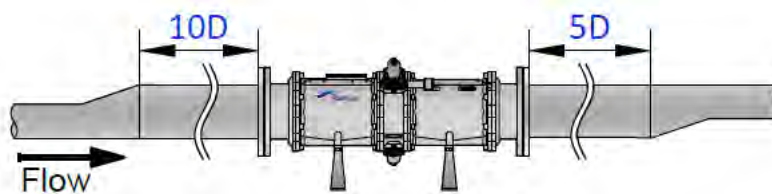

Figure 3-1: Configuration for eccentric expanders in horizontal installation
- ◆ For a horizontal installation, install an eccentric reducer/expander adapters, with downstream outlet higher than inlet, as shown in Figure 3-1 .